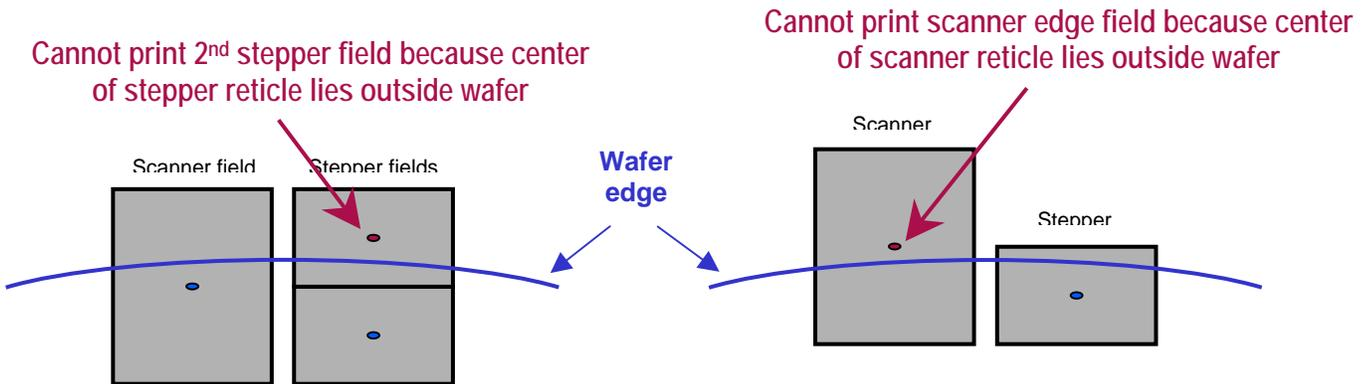

Figure 5: This chart shows the problems that can occur when optimizing the placement for one stepper only.
- 1) **Mix and Match** – When using a mix of different steppers/scanners to produce a product, matching different size reticles can be a very difficult problem. WAMA can help to avoid stage limit problems (see figure 5) by making sure that masks can be printed on all layers and can use any stepper/scanner as designate. More than this, WAMA can help you get the maximum die count and throughput for this product.